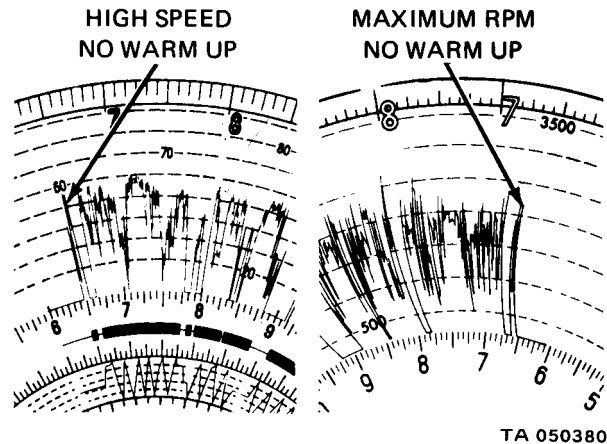

Figure 20-16. Poor Cold Starting Procedure
(10) Cold starting and warming up the engine. The chart in Fig. 20-16 shows the engine was run at 2,300 rpm as soon as it was started. During the same time period, the speed field shows the truck was driven at 60 mph. Reading the two fields shows the engine was not warmed up before driving the truck. This kind of driving can cause damage to pistons and other engine parts. Again, the driver of the truck must be told to change this driving habit.